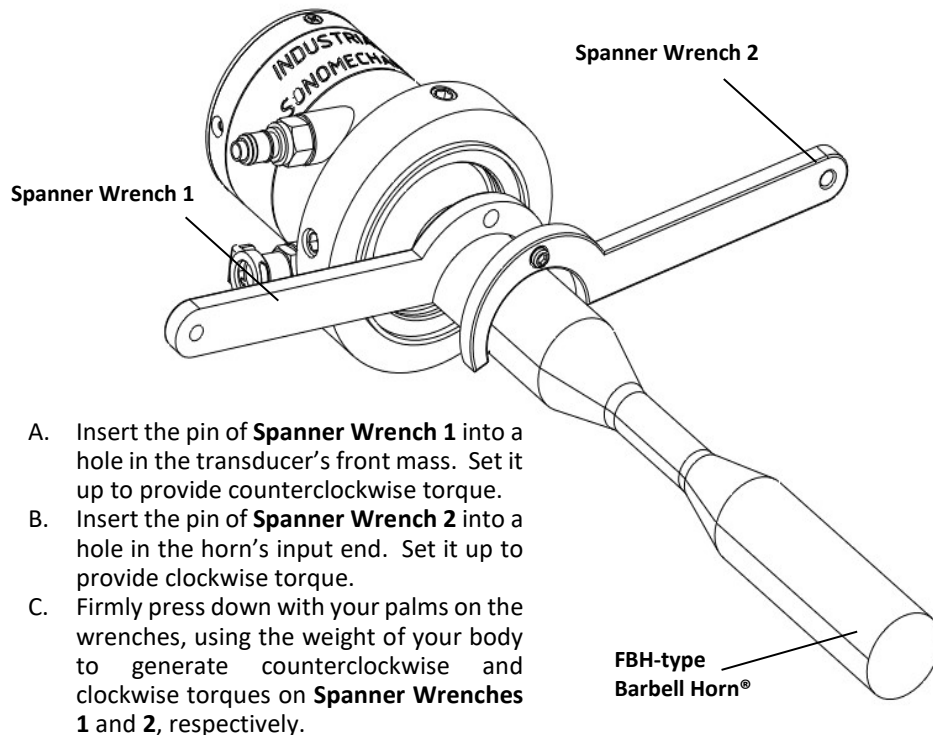
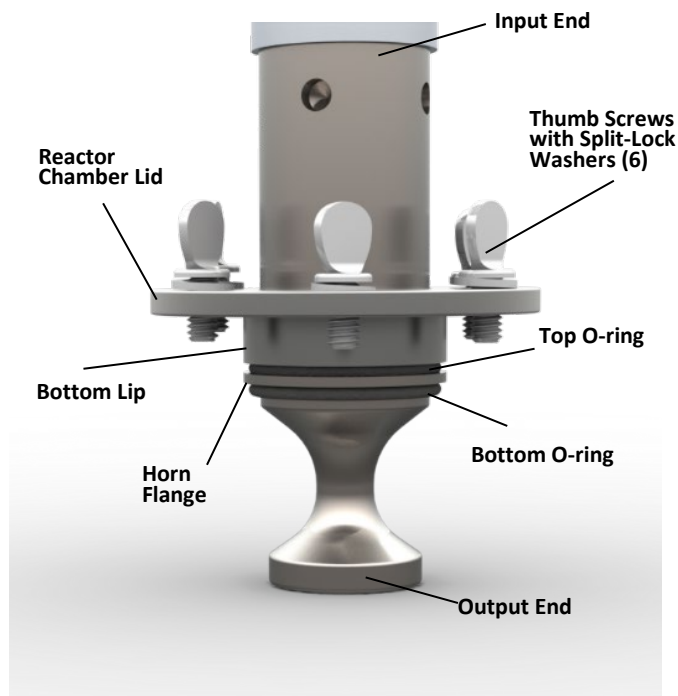

Figure 12. Attaching a Barbell Horn® to the SWCT-1200 transducer.
Figure 15. Step 1 of reactor chamber assembly procedure.
6. Thread the components together by hand and then tighten using the supplied spanner wrenches. See Figure 12 for the correct tightening procedure.
Step 1. (see Figure 15)
- Insert the **Thumb Screws with Split-Lock Washers (6)** through the six holes in the reactor chamber lid (you may choose to do this operation after step 2a, below).
- Assemble the transducer with the horn as described in Figure 12.